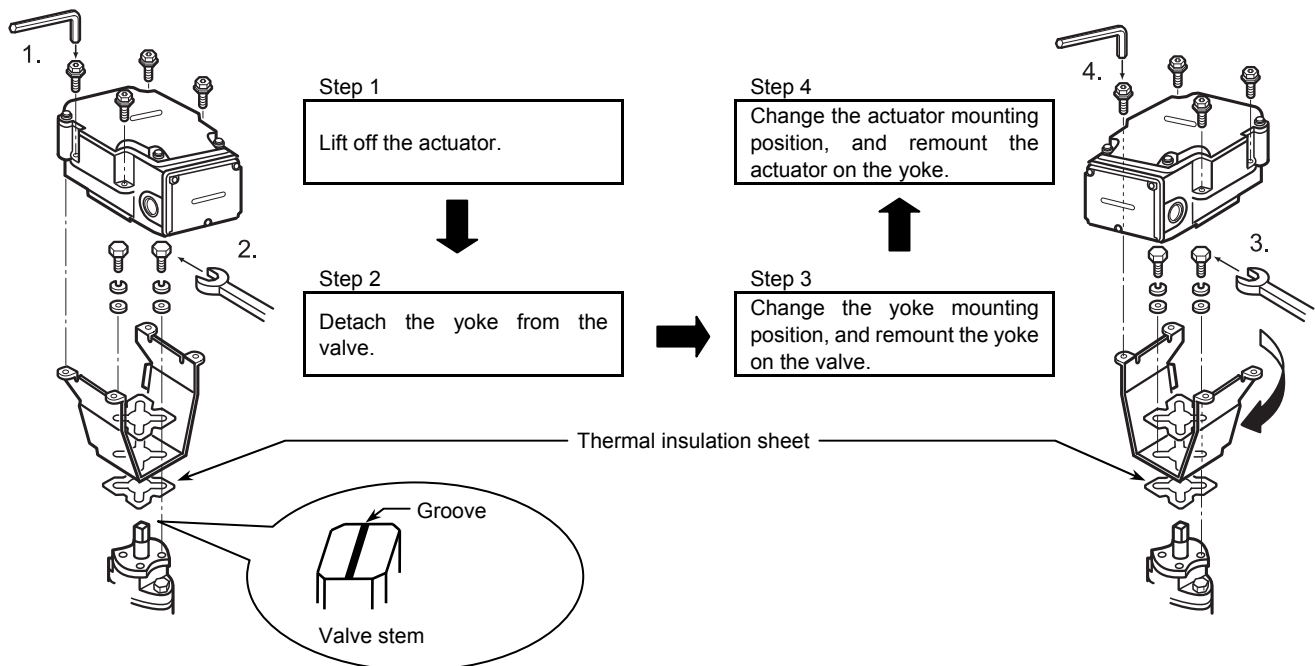

Figure 7. Changing the actuator mounting position
- 1) Remove the screws connecting the actuator and the yoke. Lift the actuator and detach it from the yoke. Make sure that the groove on the top of the valve stem is parallel to the pipes (indicating the valve in 100 % position). <Step 1 in Fig. 7>
- 2) Remove the screws connecting the yoke and the valve. <Step 2 in Fig. 7>
- 5) Before fixing the yoke to the valve with the screws, check that the actuator engages correctly with the valve stem (at the new mounting position). Check that the pointer of the actuator indicates 100 % position as well. Then, fix the yoke to the valve. <Step 3 in Fig. 7>
- 6) Mount the actuator. Place the actuator, with its facing direction changed, on the yoke, and fix them with the screws. <Step 4 in Fig. 7>